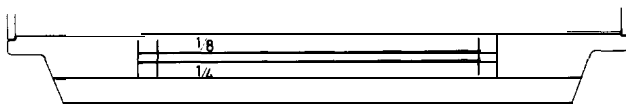

Fig. 42 Form Position Setting Mark
- b) If the cut paper sheet or form is not long enough to align the side edges, align the **top** edge of the paper with the form position setting mark on the tractor unit. (See Fig. 42)